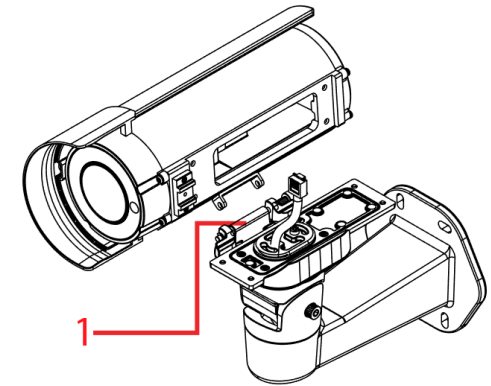

Figure 5
- Place the camera onto the hinge (1) (Figure 5) and release the pin so that the camera is attached to the mounting arm plate.